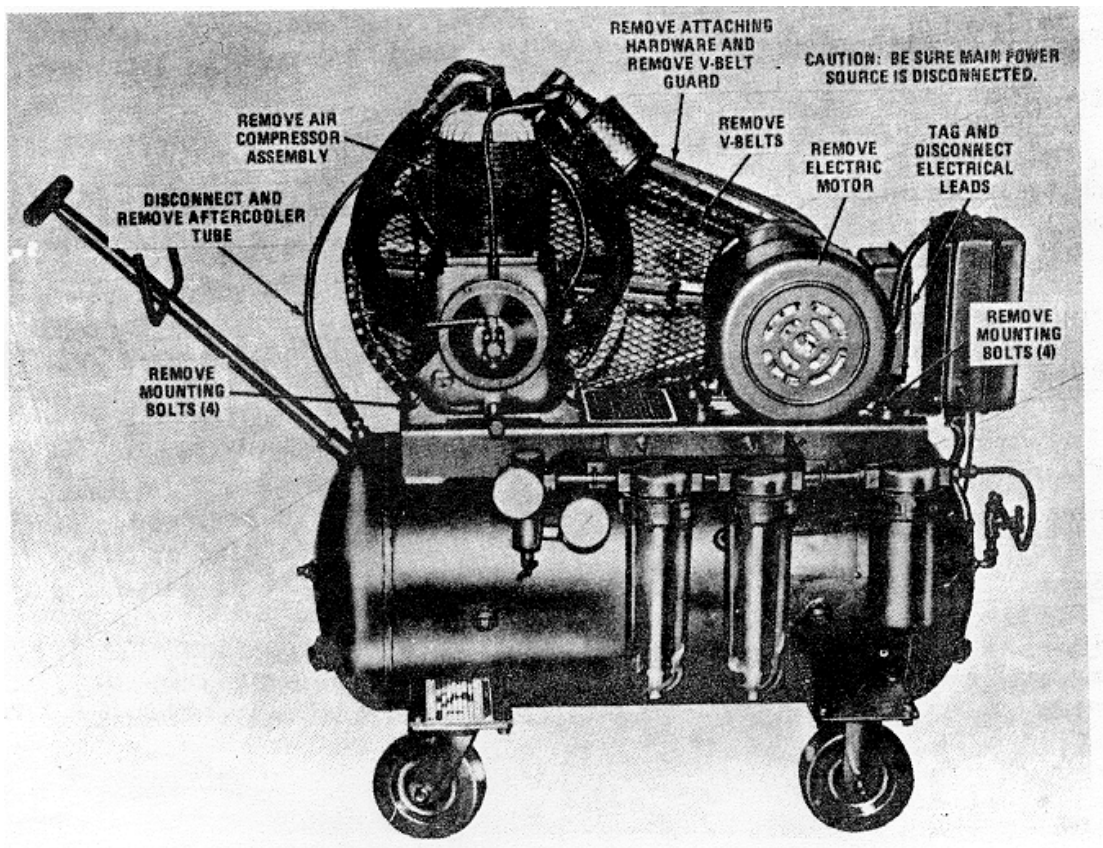

Figure 11. Electric motor and compressor assembly, removal and installation.
1. Removal. Remove the electric motor as instructed on figure 11.
2. Installation. Install the electric motor as instructed on figure 11.
1. Removal. Remove the compressor assembly as instructed on figure 11.
2. Installation. Install the compressor assembly as instructed on figure 11.